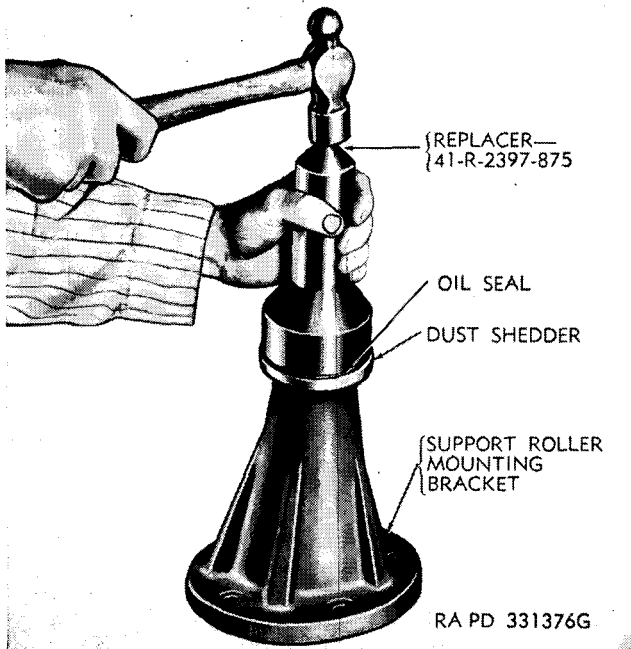
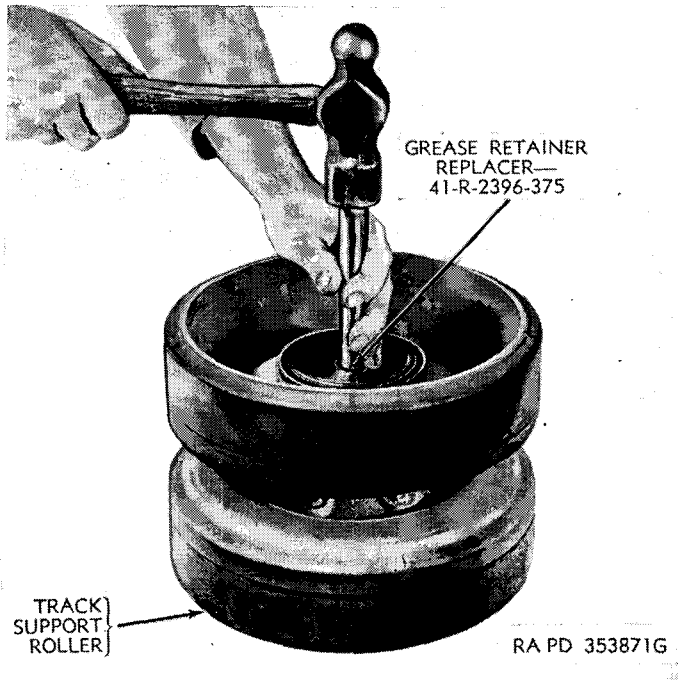

Figure 153. Installing track roller grease seal.
Figure 154. Installing track roller hub grease retainer.
- (2) *Repair.* When the track support roller brackets became loose and cannot be tightened with existing bolts, proceed as follows:
- (3) *Installation.* Install bearing races in roller hub by driving carefully into place with brass drift or block of wood until they seat in shoulders of hub. Place new grease seal on support spindle, with featheredge toward mounting bracket and drive in position on bearing spacer, using seal replacer—41-R-2397-875 (fig. 153). Place new grease retainer in position on replacer—41-R-2396-375 with flanged edge against shoulder of tool and drive into support roller (fig. 154), until it seats on hub shoulder. Pack inner bearing with grease, as prescribed by lubrication order, and position on spindle. In-